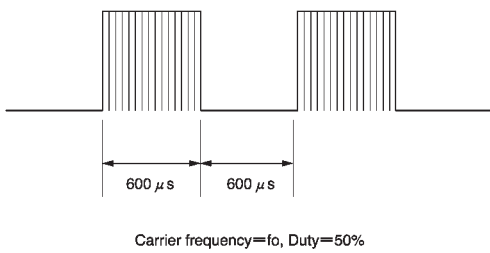
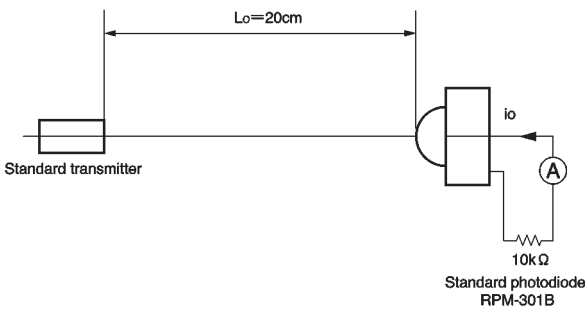
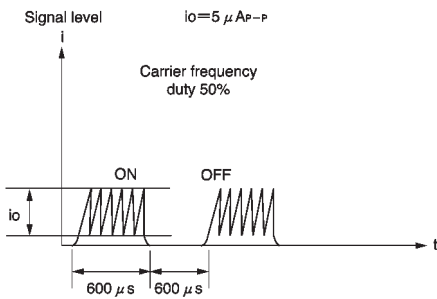

Fig.1 Transmit signal
Fig.2 Measurement of standard transmitter proofreading
Fig.3 Standard photodiode current
\*1 The burst wave form mentioned in fig.1 is to be transmitted from standard transmitter (fig.2).
When standard transmitter output the signal at Fig.1 standard photodiode output become  $i_o = 5\mu A_{P-P}$  under the measurement condition Fig2, Fig.3.
(1) All characteristics of the receiver in this specification are specified by supplying burst wave form with ROHM standard transmitter (Fig.2).